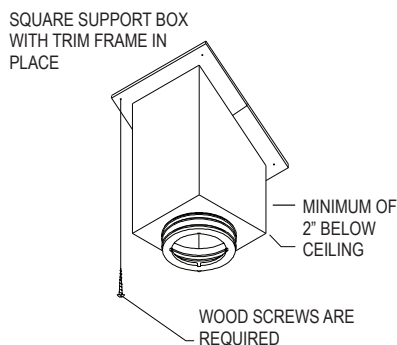
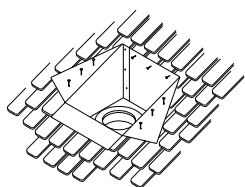

Figure 9
Figure 21
(**Fig.9**). For installation into a cathedral ceiling, you must use the Square Ceiling Support Box or Reduced Clearance Support Box (or the CAS Ceiling Support if installing the CAS system) and the two-piece Trim. The bottom of the square portion of the Support Box must be a minimum of 2" lower (round portion is then an additional 3" lower) than the finished ceiling at the lowest side of the penetration (**Fig.9**). Level the Support Box and secure it to the framing using at least three (3) 8-penny nails per side (minimum of 12 nails total), or a minimum of (3) #8, 1-1/2" wood screws. Adjust
the overlapping “U-shaped” Trim pieces so they cover the Support Box, and secure them to the framing members using the (6) 1-1/4” round head wood screws provided (**Fig.9**).
framing with at least three (3) 8-penny nails, or (3) 1-1/2", #8 screws, per side (**Fig.21**). Be sure to keep the Support Box level. Screw the trim sections into the ceiling (**Fig.9**).